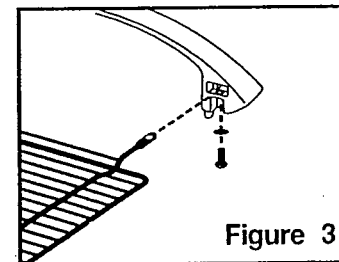

Figure 3
4. Hold Cooking Grid so long crosswires are on bottom. See Figure 3. Push recesses in Handle over ends of Cooking Grid. Be sure Cooking Grid fits all the way into furthest recesses in Handle. Carefully turn Cooking Grid and Handle upside down. Align hole in Handle with hole in Cooking Grid.